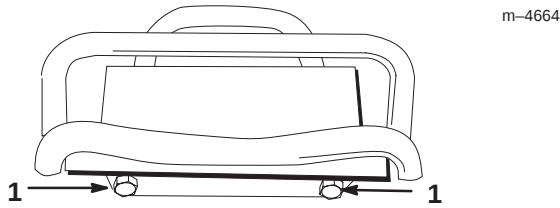

Figure 24
3. If the traction unit veers to the **left**, loosen the the **right** jam nut and adjust the tracking set screw on the front of the traction control (Fig. 24).
4. If the traction unit veers to the **right**, loosen the **left** jam nut and adjust the tracking set screw on the front of the traction control (Fig. 24).